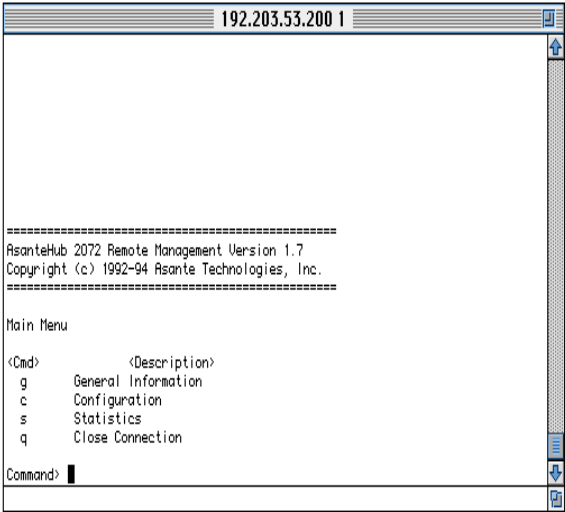

Figure 15 Asanté Remote Management System Main Menu using Telnet
**4** Click the OK button. Figure 15 shows the Asanté Remote Management System Main Menu that appears for configuring an AsantéHub 2072.